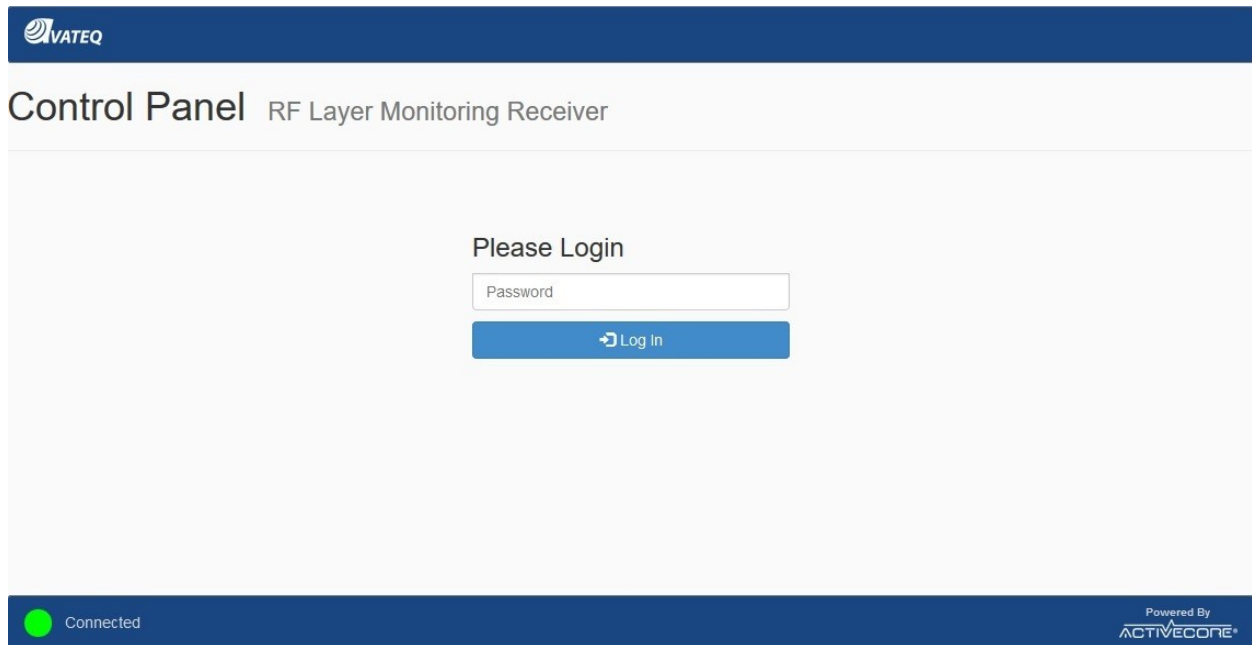

Figure 4. Login Page
- by pressing “Control Panel” (5) switch to the Receiver Control Panel Log-in page (Figure 4) and enter a password for Administrator level of access. The default password is “**admin**”;